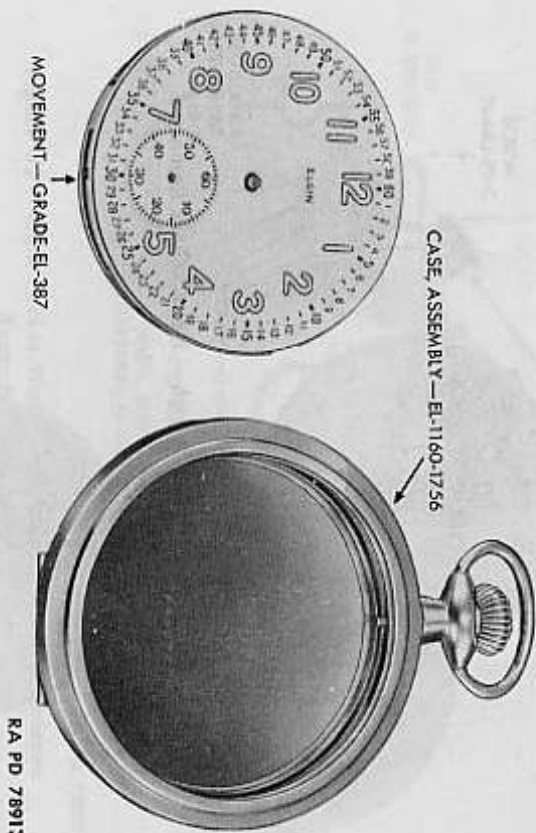

Figure 78 — Elgin Pocket Watch — Movement Removed From Case
g. Remove Movement From Case Band Assembly (fig. 78). Pull stem out to setting position. Hold case band firmly with thumb and finger, train side up. With thumb and middle finger of the left hand on the contour of the case, push movement down with the left index finger and pull the movement away from the case band in a tilted position. Make sure balance wheel does not hook on case band.